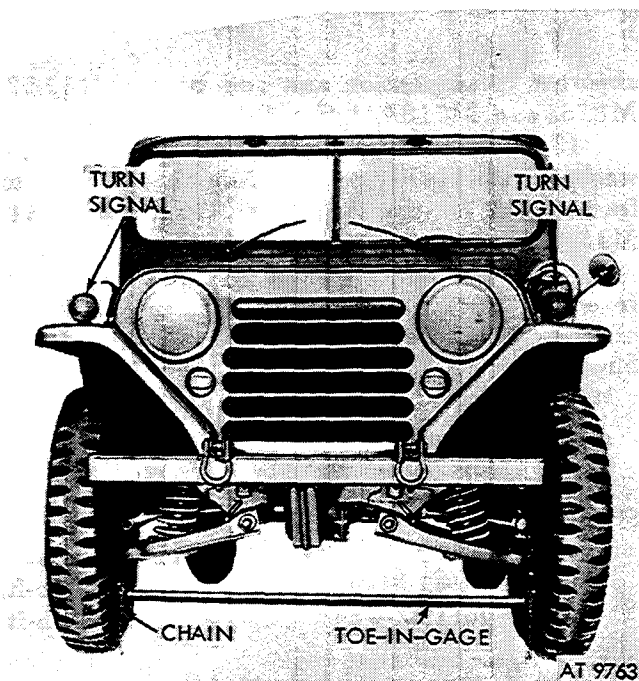

Figure 2-341. Toe-in adjustment with gage forward of vertical centerline of front wheels.
d. Place wheel alinement toe-in gage between front tires, ahead of the vertical centerline of the wheels (fig. 2-341). Position the gage so both chains just touch the floor. Move the gage scale to read zero.